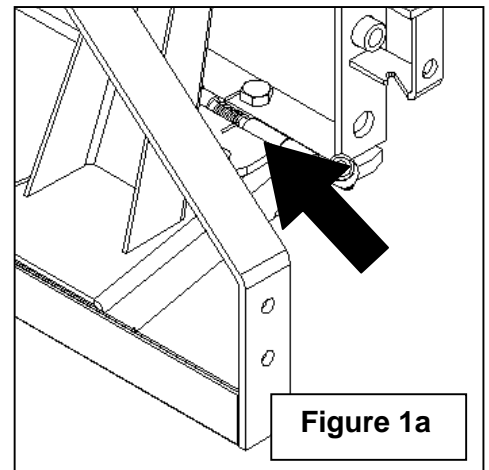

Figure 1a
- Figure 1-1a:** Align the torsion spring (item 3) and the adjustment plate (item 2) between the two broom pivot tubes (item 1) placing hole **A** downward. The straight ends of the spring must rest on top of the broom pivot (item 1) and the adjustment plate (item 2) as shown on Figure 1a.